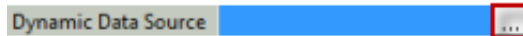

FIG. 129 Dynamic Data Source (General) Property
1. With a Listview button selected in the Design View, click on the **Dynamic Data Source** property in the *General* tab of the Properties window. This opens the *Select Resource* dialog (FIG. 129):